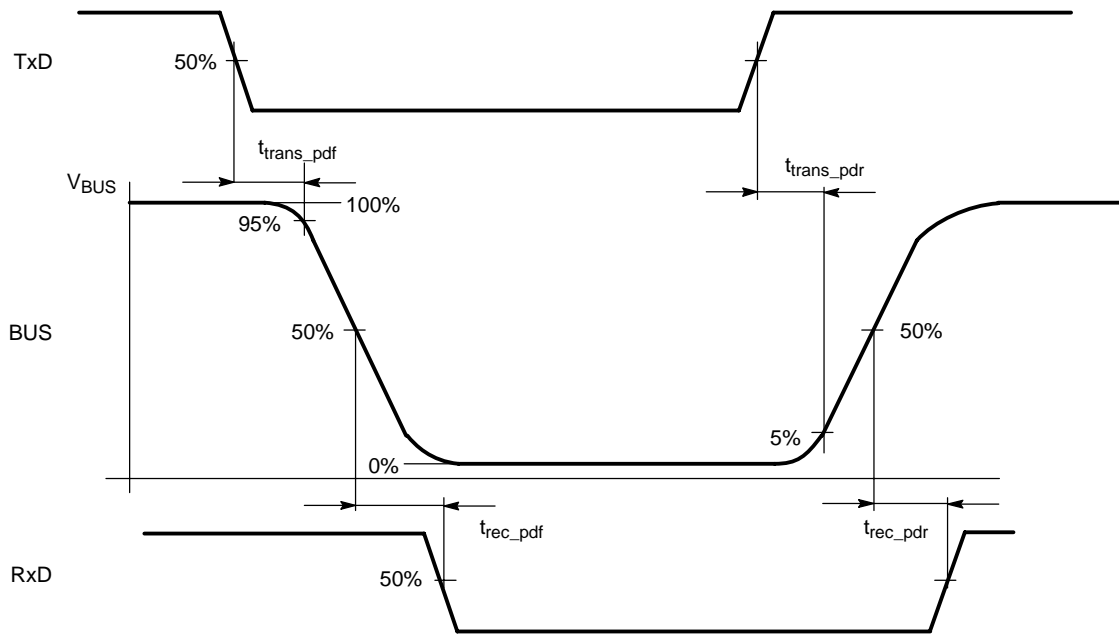

Figure 2. Input/Output Timing
10. See Figure 2 – Input/Output Timing.